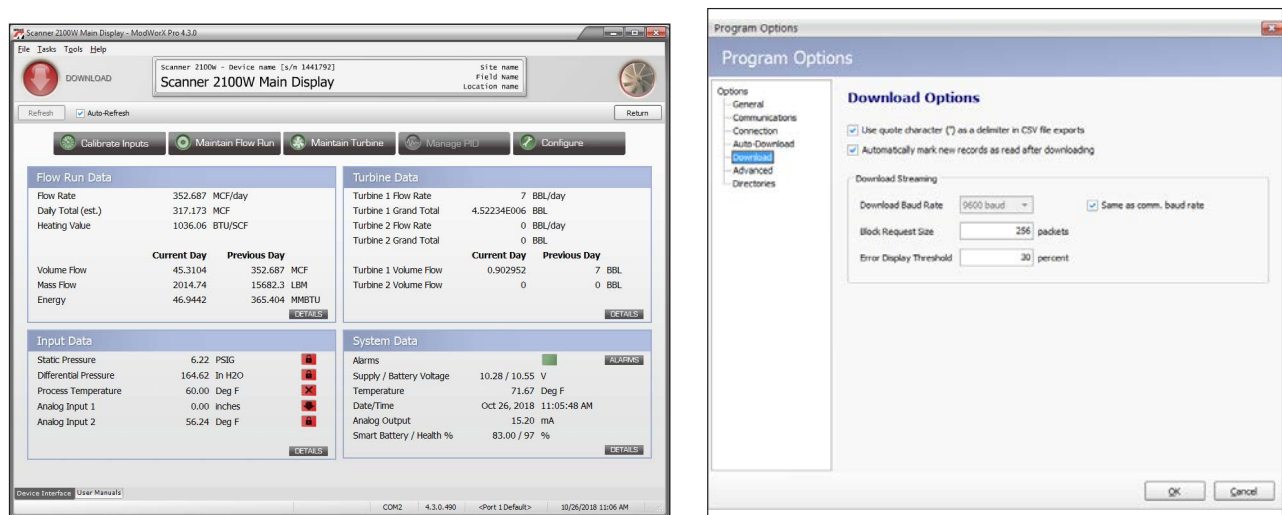

Figure A.22
1. Click **Tools>Options** in the task bar (Figure A.22).